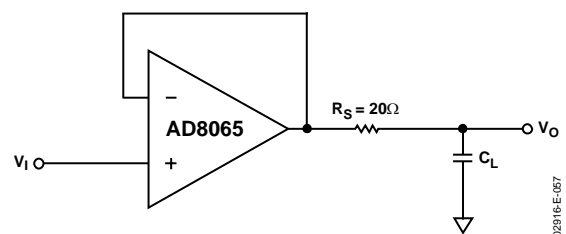

Figure 57. Output Isolation Resistor
- As shown in Figure 57, put a small value resistor ( $R_S$ ) in series with the output to isolate the load capacitor from the amp's output stage. A good value to choose is 20  $\Omega$  (see Figure 10).